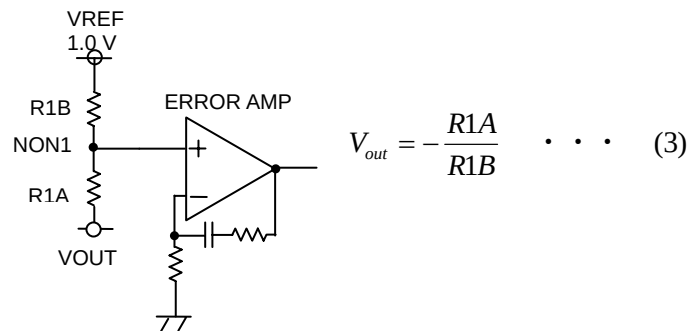

Fig.33 CH1output setting
The reference voltage of CH1 is 1.0V and the internal reference voltage of the ERROR AMP is 0 V. Output voltage should be obtained by referring to Equation (3) of Fig.33.